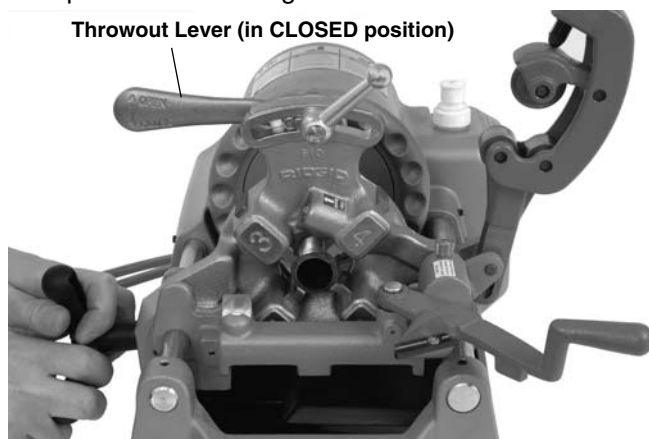

Figure 13 – Threading Pipe with No. 610 Die Head
2. Close the throw out lever on the die head (toward the operator, *see Figure 13*).